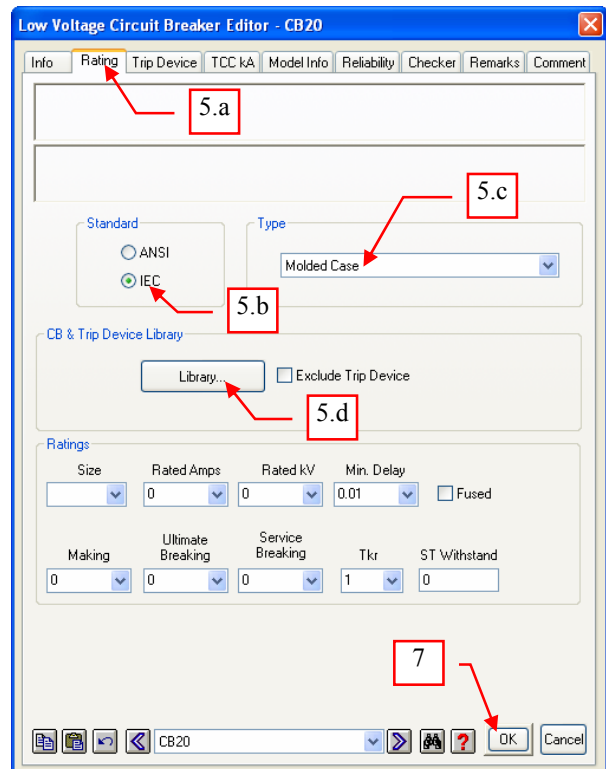

Fig. 29
5. In the “Low Voltage Circuit Breaker Editor – [X]” dialog box, do the following (see Fig. 29):
7. Click the “OK” button in the “Low Voltage Circuit Breaker Editor – X” dialog box (See Fig. 29).